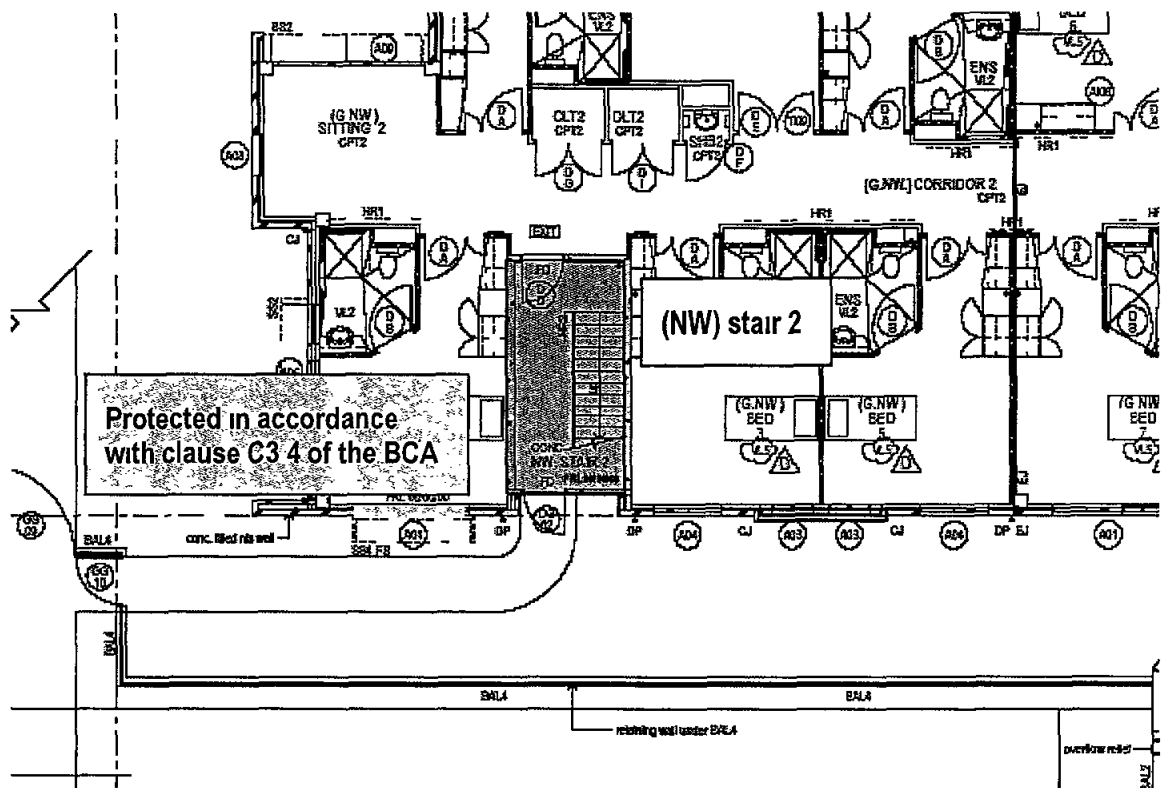

Figure 7 Discharge from (NW) stair 2
- 9 Openings within 6m of the path of travel from the discharge of the fire isolated stairs (NW) stair 2 – refer Figure 7 – must be protected in accordance with clause D1 7 and C3 4 of the BCA